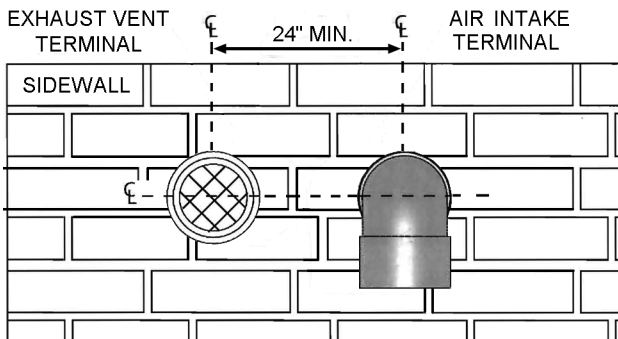
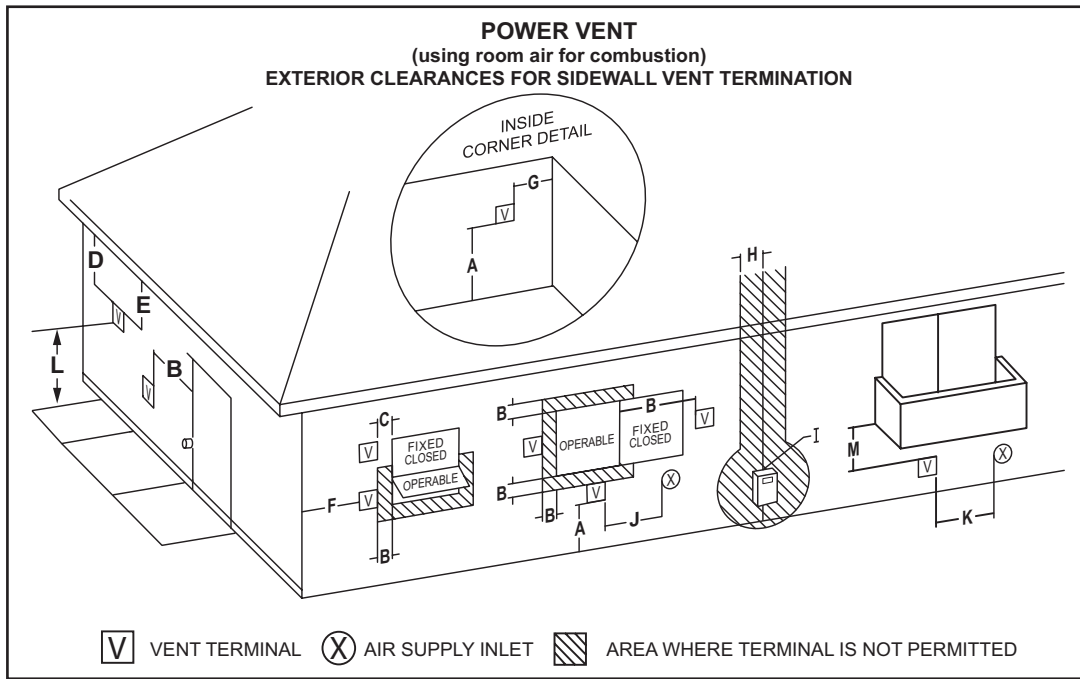
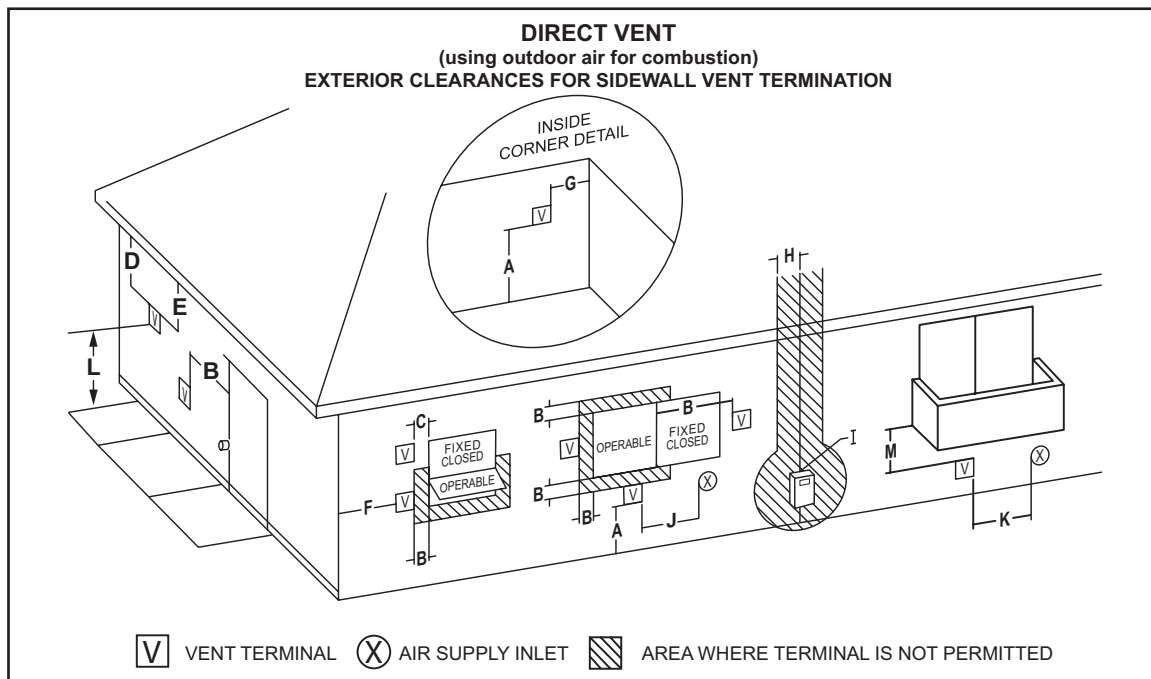

Figure: 14A
Figure: 16
Figure 17
Direct venting into dead spaces such as alleys, atriums, and inside corners can cause recirculation of flue gases. Recirculation of flue gases will cause sooting, and icing of the combustion air intake during severe cold weather. To prevent the recirculation of flue gases, maintain as much distance as possible between the combustion air intake and the exhaust vent terminal refer to "Figure: 16" and "Figure: 17" on Page 28 & Page 29 respectively.
The first step is to determine where the vent pipe will terminate. See Figures 13, “Figure: 14A”, and “Figure: 15”. The vent may terminate through a sidewall as shown in Figure 13 and “Figure: 15” or through the roof as shown in “Figure: 16” and “Figure: 17”.
The vent system must terminate so that proper clearances are maintained as cited in local codes or the current edition of the National Fuel Gas Code, (ANSI Z223.1, 12.9.1 through 12.9.4) or the Natural Gas and Propane Installation Code (CAN/CSA-B149.1). See “Figure: 16” and “Figure: 17”.
Instructions on proper installation through a sidewall are provided in Figures 13, “Figure: 14A”, and “Figure: 15”.
6. If the air intake pipe is installed up to the wall, with a coupling on the end against the wall opening, the pipe with the air intake terminal can be prepared for gluing before inserting through the wall. Slide the pipe through the wall and insert into coupling on the other side of the wall, making sure that the air intake terminal ends up pointed in the correct position (Figure 14A and Figure 15).